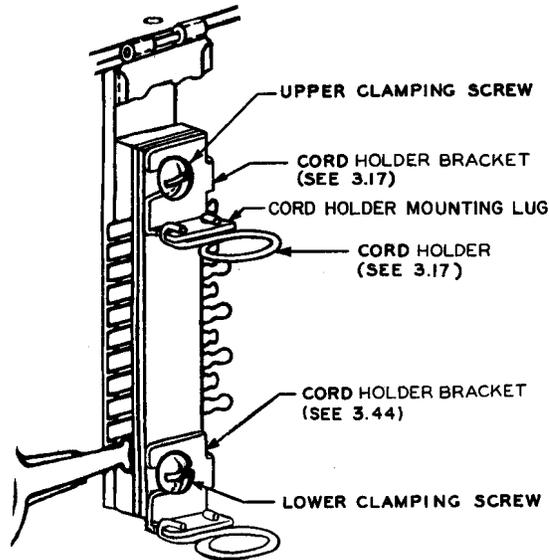

Fig. 29A—P-251147 Commutator
bracket under the upper clamping screw, using the 4-inch E screwdriver, with the cord holder mounting lug of the bracket below the screw as shown on the P-251147 commutator in Fig. 29A. Except in the case of the P-251147 commutator, the cord holder bracket may be mounted under the upper mounting screw as shown in Fig. 29B if the cords cannot be dressed properly with the bracket under the upper clamping screw. Mount the cord holder on the cord holder bracket. To do this, hook the left hook of the holder over the left lug of the bracket. Slide the right hook around the front of the bracket until the right hook snaps over the right lug of the bracket. The hooks of the cord holder should be up.
3.18 *Substitution of Detachable One-Piece Cord Holder Mounted Under Lower Clamping Screw of Commutator Mounted on Banks:* When replacing M1G cords by M1R cords, replace a one-piece cord holder mounted under the lower clamping screw of commutators mounted on the bank. This is done to facilitate the removal of the switch from the bank. Loosen the lower clamping screw under which the cord holder is mounted using the 4-inch E screwdriver, and remove the cord holder. Replace this holder by a cord holder bracket and detachable cord holder. To do this, mount the bracket under the lower clamping screw with the cord holder mounting lug below the screw as shown in Fig. 29A. Mount the cord holder on the lug of the bracket as described in 3.17. Tighten securely all screws which were loosened. If preferable for cord dressing or other reasons, the cord holder bracket may be mounted under the lower mounting screw as shown in Fig. 29B.
3.46 *On switches where the commutator is mounted on the coverplate* (Fig. 29A), loosen the lower commutator clamping screw with the 4-inch E screwdriver and mount a commutator cord holder bracket under the head of the clamping screw with the cord holder mounting lug of the bracket below the clamping screw. Securely tighten the clamping screw. If the clamping screw is not long enough, it may be necessary to order a new screw.